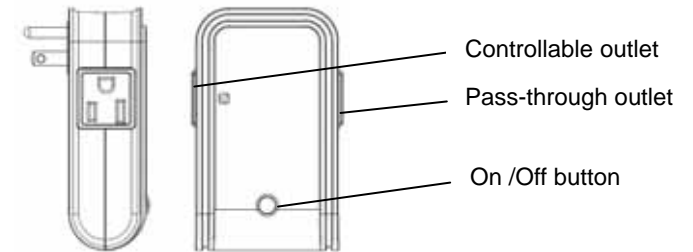

Fig. 1
1. In the front cover, there is an On/Off button with LED indicator (Fig. 1).